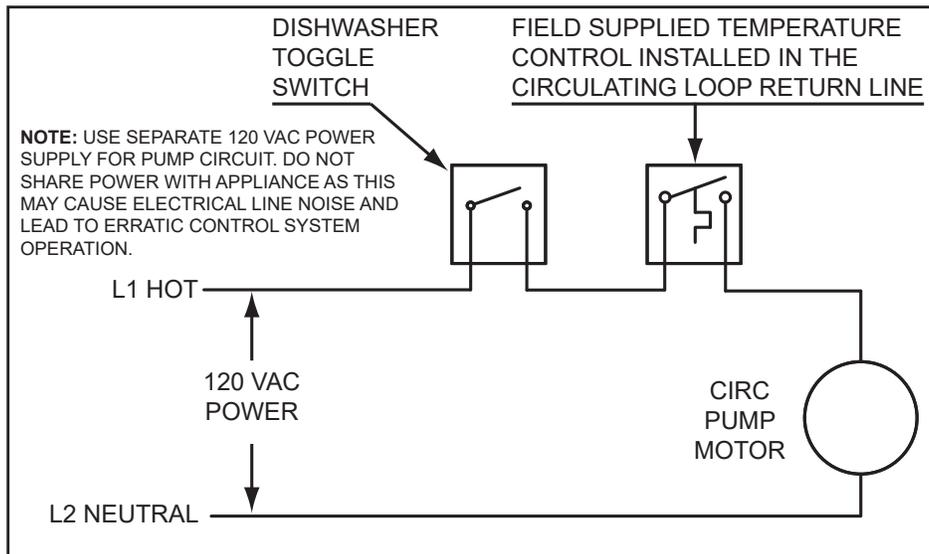

Figure 73. Circulating Pump Wiring Diagram - Dishwasher Loop Toggle Switch
8. If a pump is being installed in a recirculation loop between the water heater and a commercial dishwasher wire according to *Figure 73* (page 100).
7. If a pump is being installed in a recirculation loop between the water heater and a commercial dishwasher wire according to **Figure 73** (page 100).
7. If a pump is being installed in a recirculation loop between the water heater and a commercial dishwasher wire according to *Figure 73* (page 100).